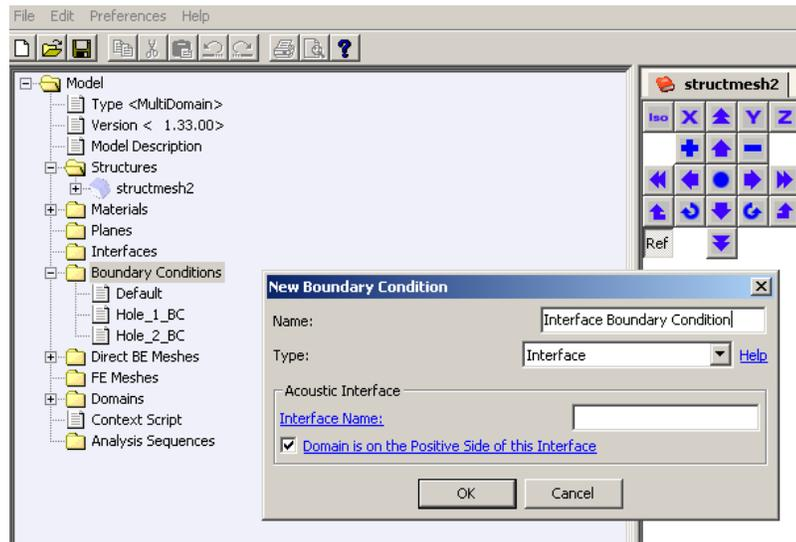

Figure 6.14 Interface Boundary Condition.
This Boundary Condition is applied on the boundary of an interface between two domains in a *MultiDomain* model. Physical details of the interface are provided in the **Model** → **Interfaces**. (Figure 6.14.)
**6.5.2.1. Interface Name** Defines the name of the acoustic interface. (Figure 6.14.)
**6.5.2.2. Domain is on the Positive Side of this Interface** Defines whether the acoustic domain being solved is on the positive side of the interface or not. (Figure 6.14.)